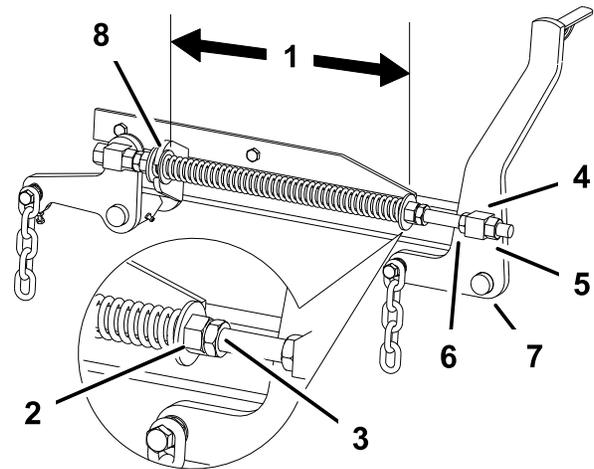

Figure 81
2. Check the distance between the 2 large washers, it needs to be 29.2 cm (11-1/2 inches) (Figure 81).
3. Adjust this distance, by loosening the spring jam nut and turning the nut in front of each spring (Figure 81). Turning the nut clockwise will shorten the spring; counter-clockwise will lengthen the spring.
4. Lock the nut into position by tightening the spring jam nut (Figure 81).